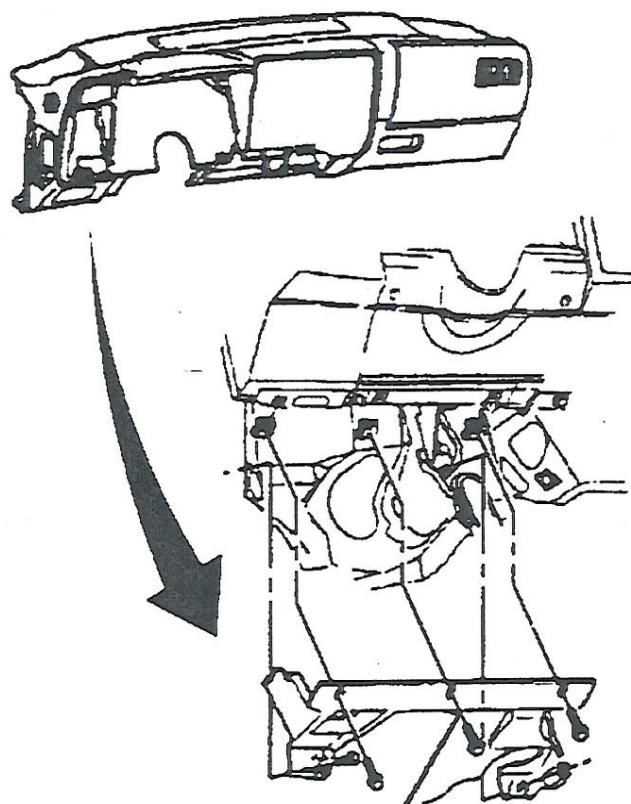

Fig. 21 Lefthand instrument panel sound insulator. 1997 S & T Series & Bravada
4. On all models, remove lefthand instrument panel sound insulator as illustrated in Fig. 21.